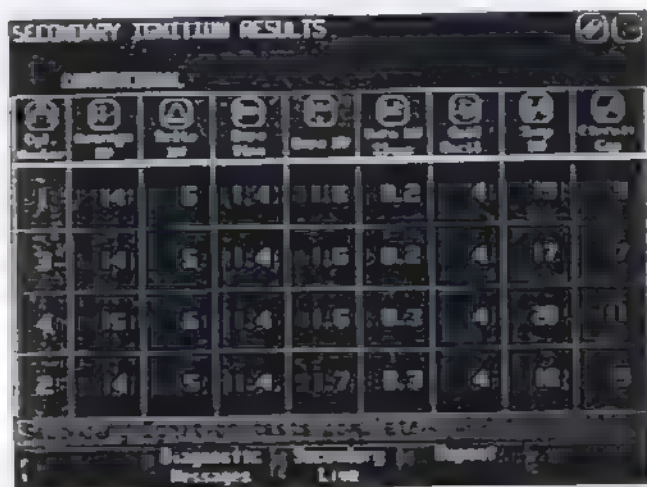

Figure 3-23
2. Follow the screen prompt (run the engine at idle or cranking speeds) and "snap" the accelerator when prompted. The analyzer measures the burn time, various KV readings and circuit gap, and then displays the results for each cylinder on the chart on the screen shown in Figure 3-23.